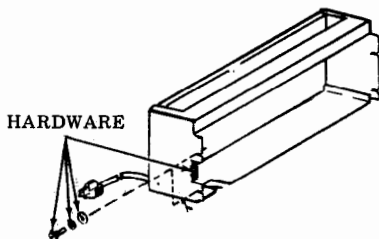

Fig. 44
Step 3 — Remove guard from back of module by removing four screws, flat washers and lockwashers (Fig. 44).